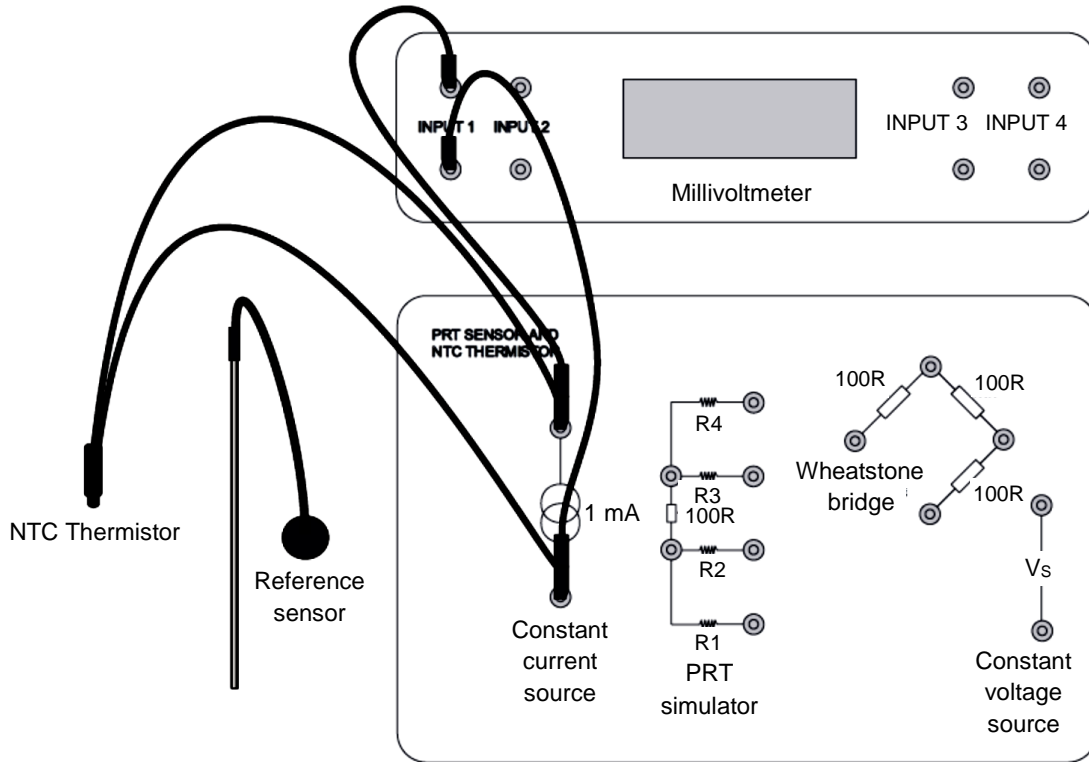

Figure 3
1. Connect the reference sensor to its socket and connect the NTC Thermistor (Item 10) to the millivoltmeter and the constant current source as shown in Figure 3.